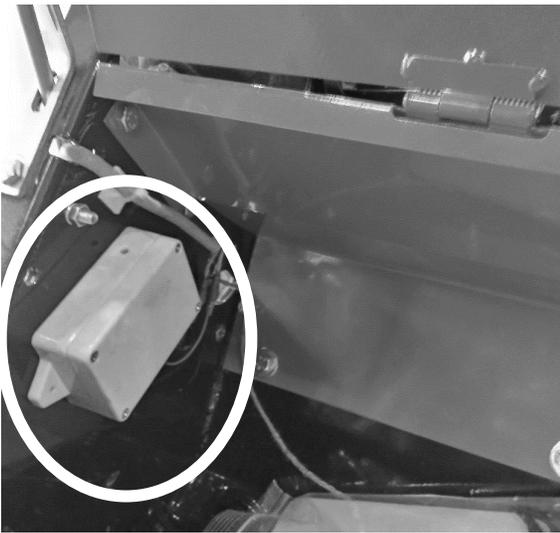
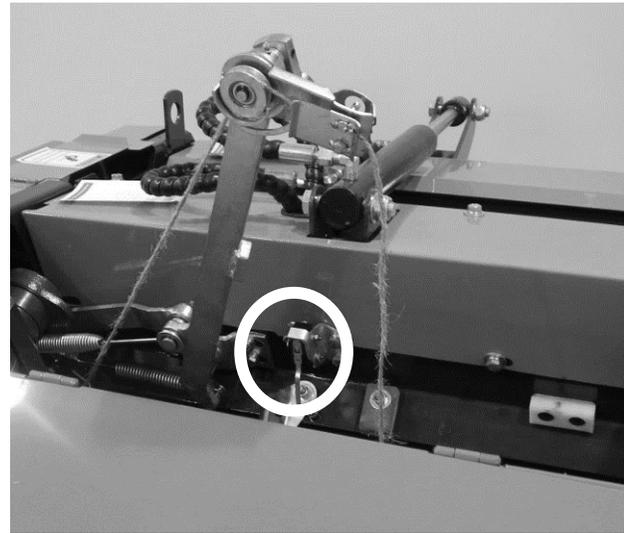

Figure 1
Figure 2
- The machine comes with a 9V battery that powers the bale chamber full alarm. The battery is inside a battery box that is enclosed in a grey outer weather-proofing box as shown in Figure 1. The battery box has a switch that is **turned off by default**. Before using the machine, be sure to open the grey box, turn on the switch, and test that the horn is getting power. You can do this by depressing the sensor switch shown in Figure 2 below.